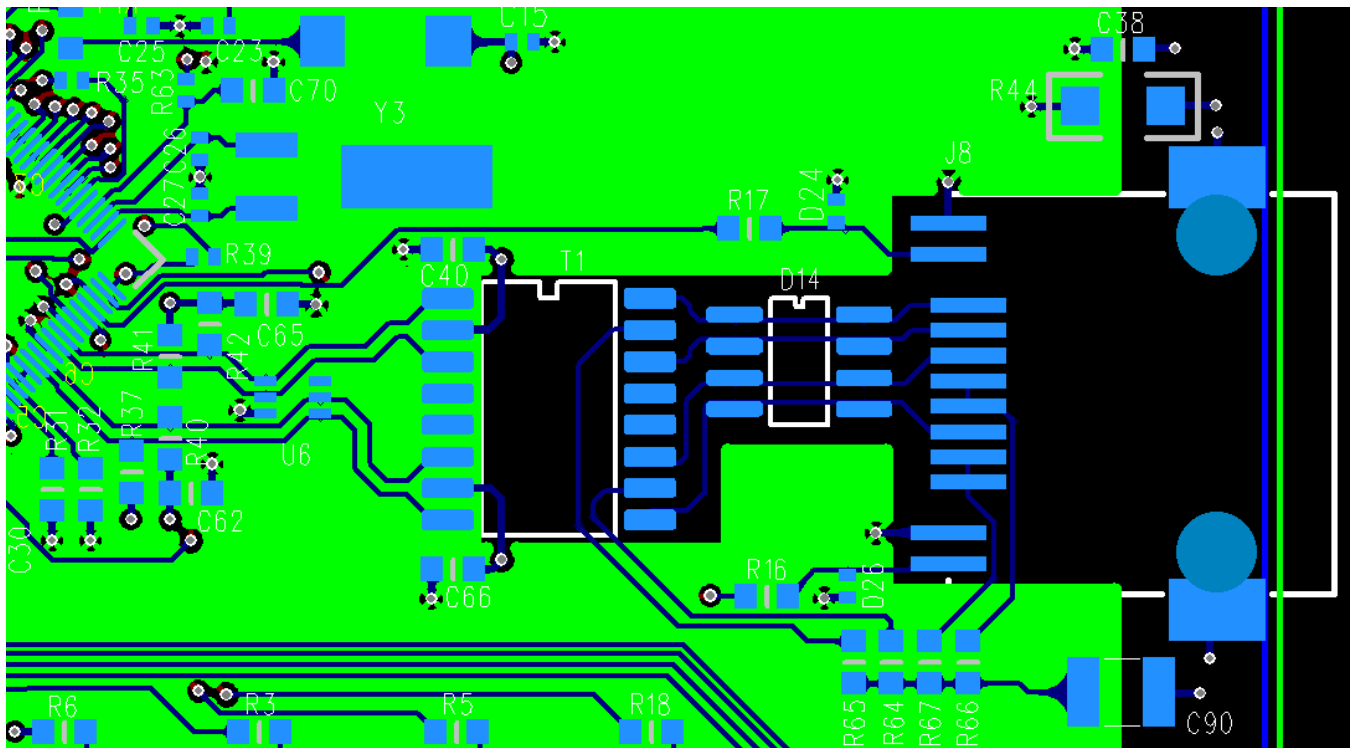

Figure 32. Ethernet PHY PCB Layout
Good PCB layout and routing practices are important to ensure reliable Ethernet signaling, as shown in the example in Figure 32.
- Place 0.1- $\mu$ F capacitors close to the Ethernet transformer (see C40 and C66 in Figure 32).
- Do not extend the ground plane under the signals from the transformer to the connector (see the lack of a ground plane under T1, D14, and J8 in Figure 32).